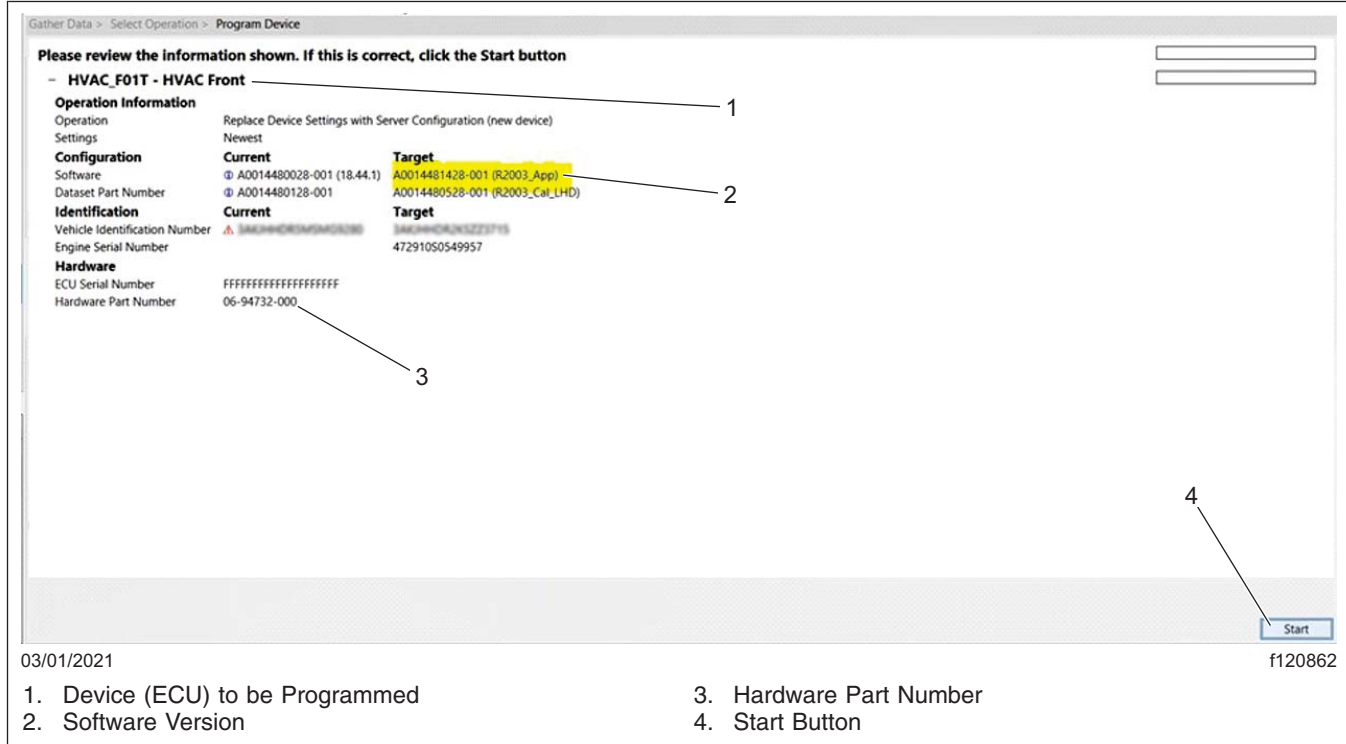

Fig. 11, Programming the ECU
13. Review and verify the ECU selected, the software version being installed ('Target' software number)¹, and the hardware part number. See **Fig. 11**. Then select 'Start' to program the ECU.